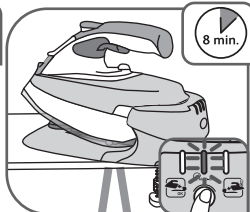

Fig. 16*
- Flashing orange light (according to model): Auto-Off function activated (see the section "Auto-Off safety" – fig.16).
- To restart the iron, simply press the RESTART button on the display panel – fig.16.